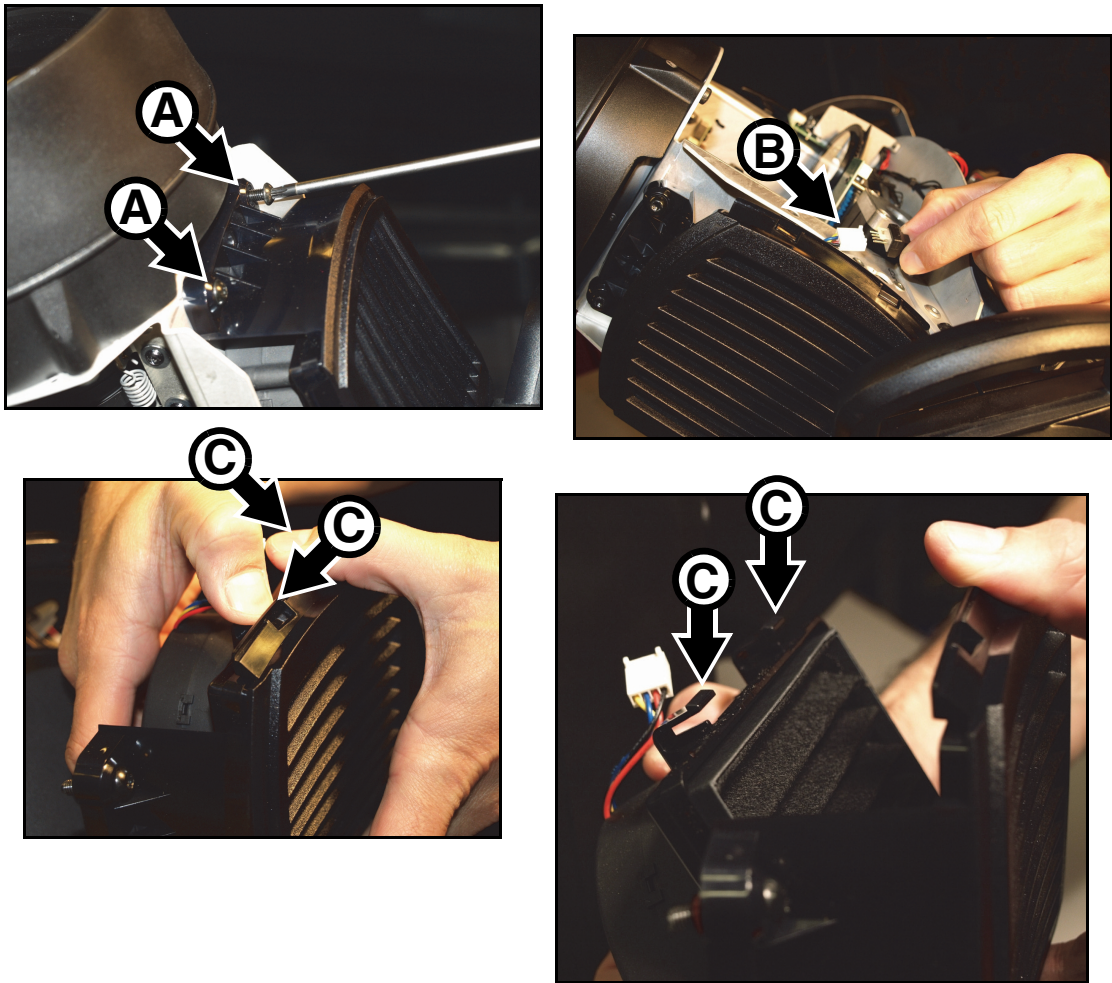

Figure 13: Head air filter removal
3. See Figure 13. Loosen the two captive Torx 25 screws **A** at the front end of the filter housing until the screws turn freely.
8. See Figure 13. Hook the side of the cover opposite the clips **C** into the housing and then press the cover onto the housing, checking that the clips snap into the housing and that the cover is located correctly with no gaps where air could bypass the filter.